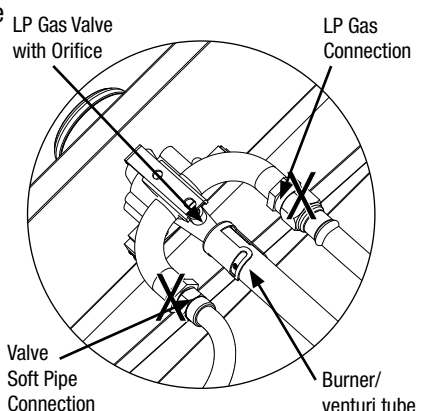

Figure 3
- Make sure control knobs are in the "OFF" position (Figure 3).
3. All control knobs must be in the "OFF" position (Figure 3).